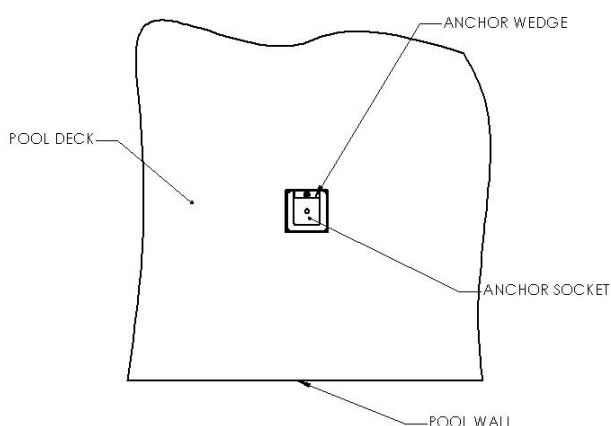

FIGURE 5
1. The wedge anchor should be installed in the orientation shown in **FIGURE 5**. As shown in **FIGURE 5**, the side of the anchor that contains the wedge should be oriented such that it is parallel to, and farthest away from, the pool wall.